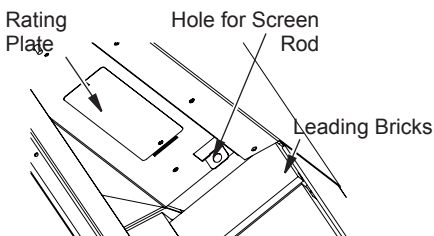

Figure 30 - Installing Fireplace Screen
2. Insert the round end screen rod into hole on the left and right side of smoke shelf (Figure 30).